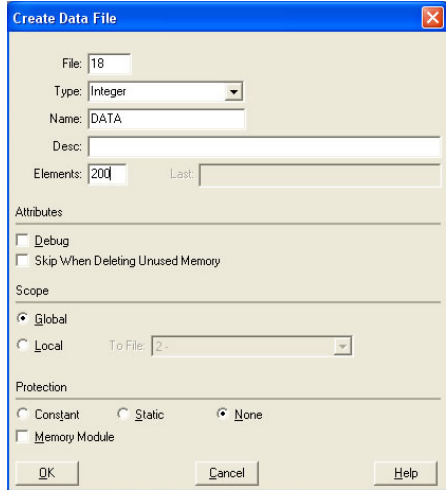

Figure 110: Creating a Data File
- c) Follow the same procedure to create a data file. This file will be used to store the incoming data read from the interface card. Enter a file number (e.g. 18), set the type to "Integer", enter a descriptive name (e.g. "DATA"), and enter a number of elements (e.g. 200). Refer to Figure 110. Click OK to create the file.